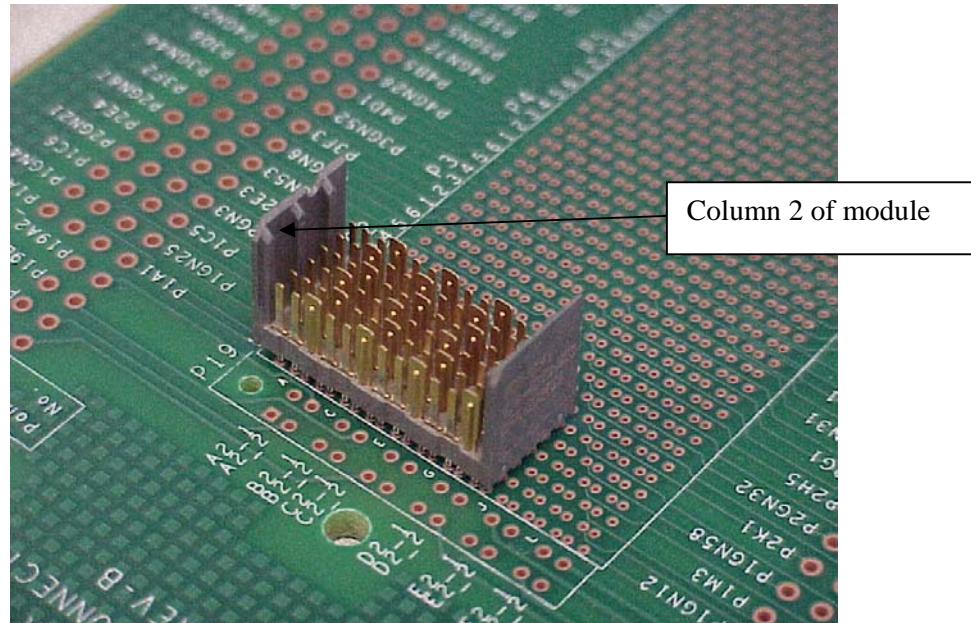

Figure 18. New Module Orientated on Board
5.3.1 Place new module onto board, orientate module as see in Figure 18.